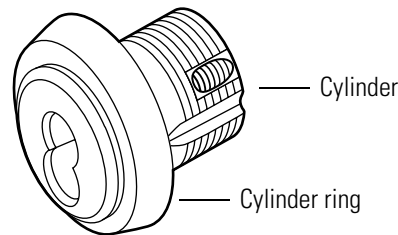

Figure 5.7 Removing the cylinder ring (mortise cylinder shown)
2. Slide the cylinder ring off of the cylinder assembly. See Figure 5.7.